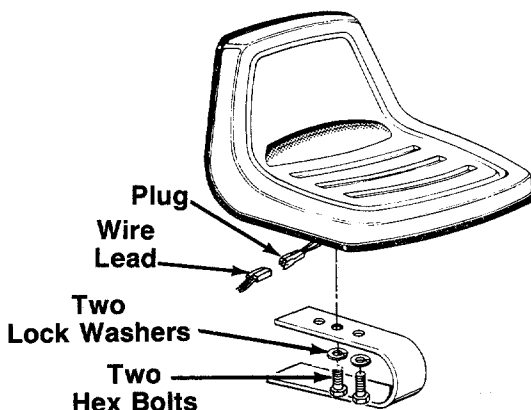

FIGURE 4.
1. The seat may be adjusted to two different positions. Select desired position and secure to seat spring with two hex bolts and lock washers. See figure 4.
2. Plug the wire lead which is in the wire harness beneath the seat into the plug on the wire lead extending from the right hand side of the seat. See figure 4.